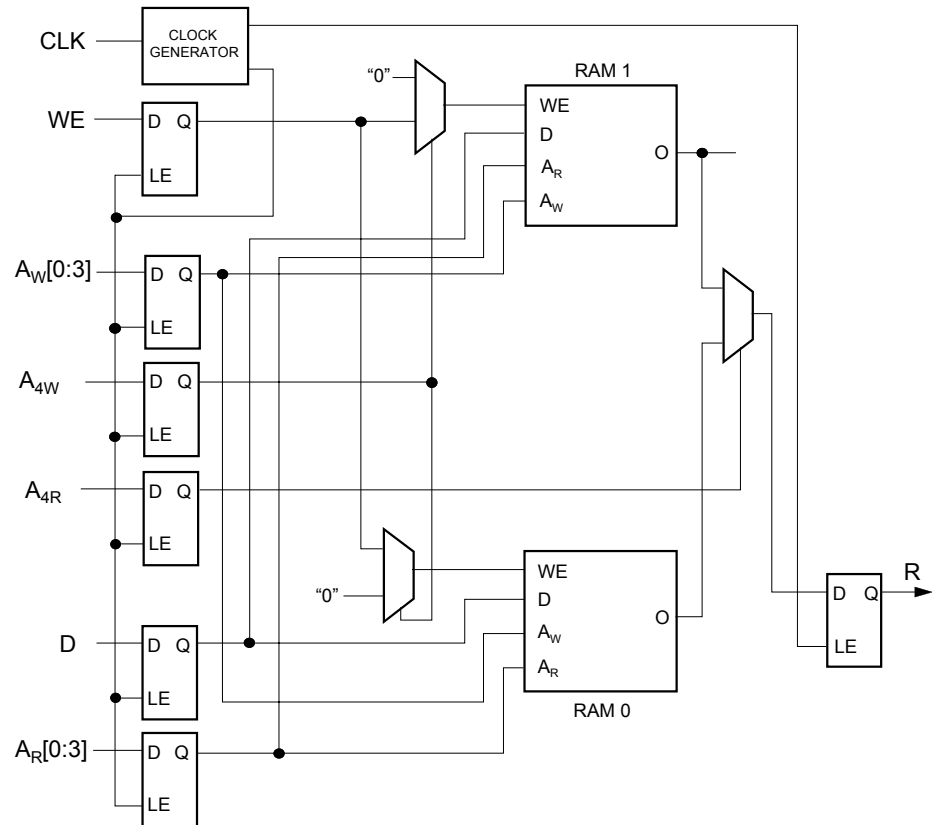

Figure 14: 32x1 Dual Port RAM
Figure 14 shows the configuration for the 32x1 Dual Port RAM. This is a true dual port RAM with separate read and write addresses. The RAM has 5 bits of read address (A0R - A4R), 5 bits of write address (A0W - A4W), a data input (D), a write enable (WE) and a clock input. All 12 inputs are totally synchronous to the clock. Just like an edge triggered flip flop, the only timing requirement is that all setup and hold times are obeyed. The operation of the dual port RAM is slightly different than that of the single port RAMs. When WE is HIGH, the RAM is in the write mode. Data presented on the D input will be written to the location specified by addresses A0W - A4W.